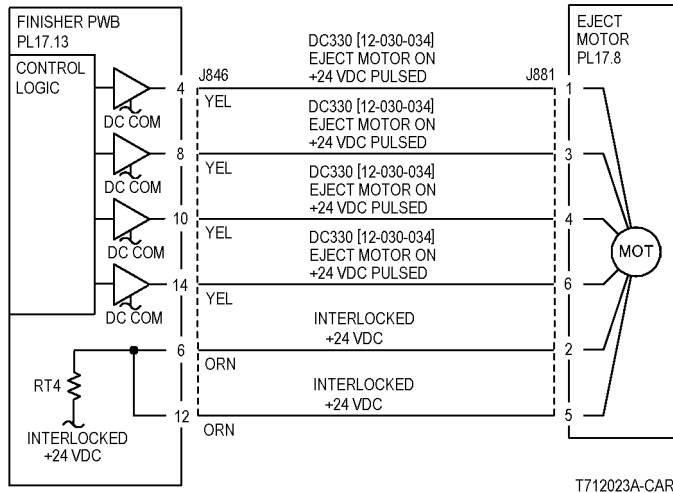

Figure 3 Eject Motor CD
Press Stop. Check the circuit of the Eject Motor (Figure 3). Refer to the OF 99-9 RAP for troubleshooting procedure.
- Ensure that the connectors shown in the circuit diagrams (Figure 2, Figure 3) are securely connected and that the wires are not damaged.